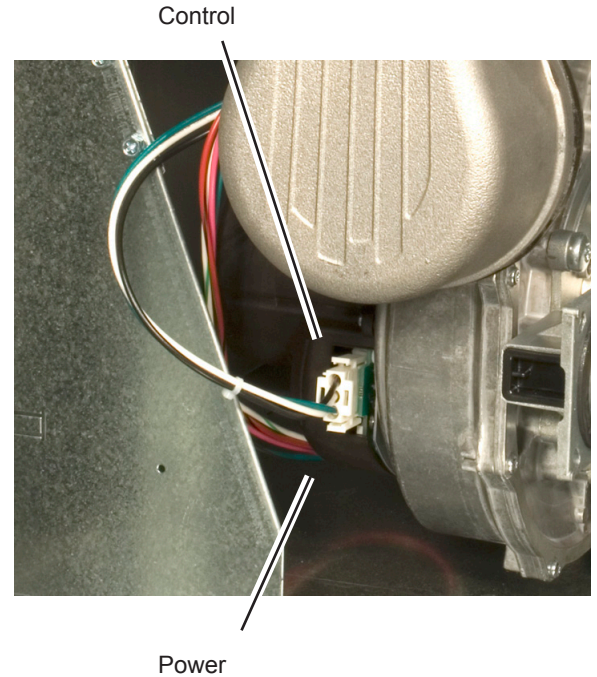

Fig. C5-5 - Wiring connectors for blower
6. Disconnect the wires to the blower. See Fig. C5-5. There are two connectors. The power wires run to the front connector, and the control wires connect to the rear.